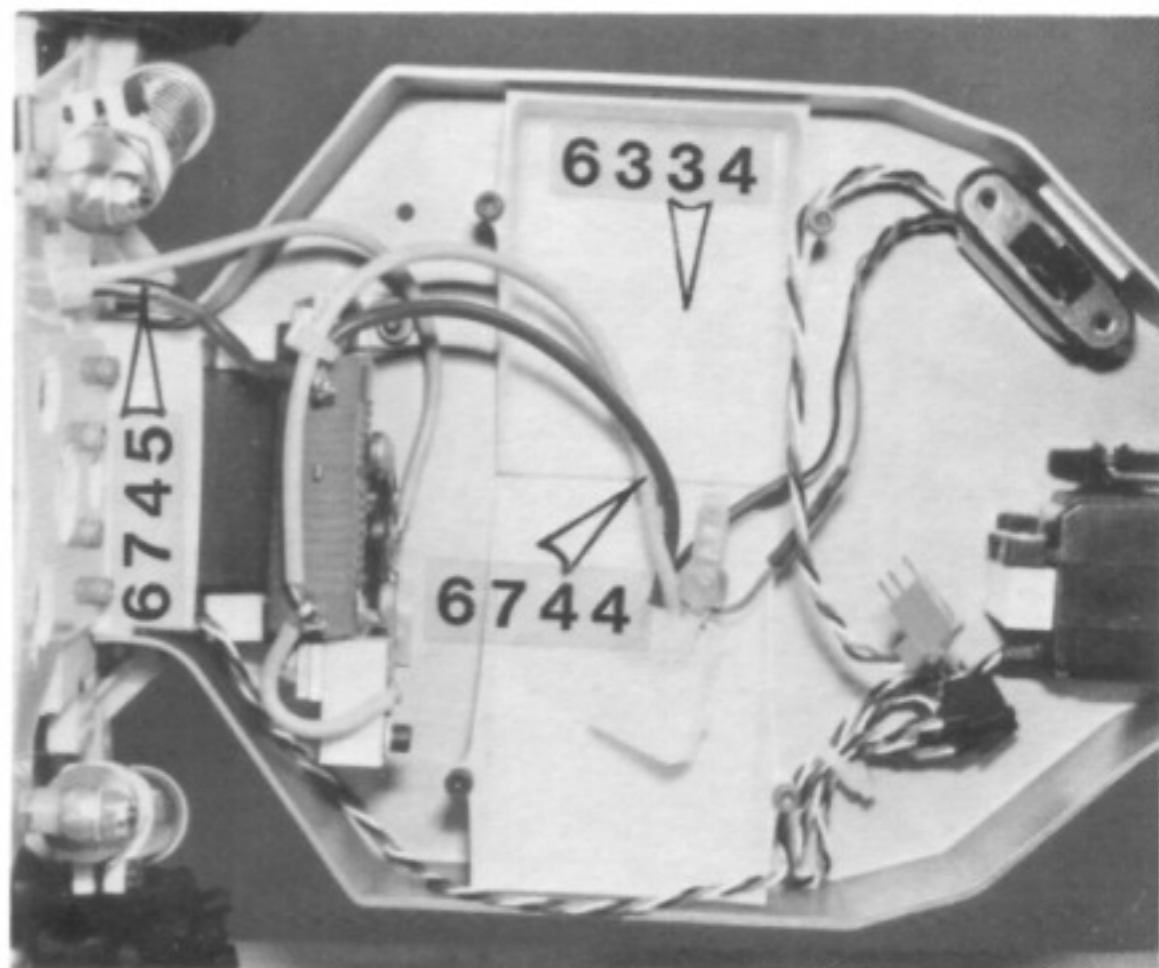

Fig. 179
□ **Fig. 179** We've installed the #6745 portion of the wiring, now we'll finish the #6744 wiring. Now, we'll attach the wires to the switch. On the wiring diagram fig. 208 it shows a black, a green and a red wire going to the radio. You'll only use 2 of these wires, not all 3. On the wiring diagram, you'll notice there are diodes by the battery plug. These diodes cut the voltage down going to your radio so you won't burn out your radio. We'll be attaching 2 of these wires to 2 wires on the radio switch. If there's short wires on the switch, use these for the connections. You'll have to cut the connector off and strip the end of the wires about 1/4" for soldering. We'll tell you the correct wiring for different radio and battery combinations. With a Futaba radio and a 6 cell battery pack - solder the black (-) lead, on the diagram, to the black (-) lead, on the switch. Then solder the green (+) lead on the diagram to the red (+) lead on the switch. Cut the extra red wire off by the 3 pin connector. With a Futaba radio and a 7 cell battery pack, solder the 2 black ends together, and then solder the 2 red ends together. Cut the green wire off by the diode. With an Airtronics radio and a 6 cell battery pack solder the black (-) lead, on the diagram, to the #2(-) which is marked on the switch plug. Now solder the green (+) lead on the diagram to the #3(+) lead. Cut the extra red wire off by the 3 pin connector. With an Airtronics radio a 7 cell pack - solder the black (-) lead, on the diagram, to the #2(-) wire. Now solder the red (+) lead to the #3(+) wire. Cut the extra green wire off by the diode. For other radios you'll always solder the black (-) wire to the (-) wire on your switch. With a 6 cell battery pack you'll solder the green (+) wire to the (+) wire on your switch and with a 7 cell pack you'll solder the red (+) wire to the (+) wire on your switch. Now, with black electrical tape, put a few wraps of tape around the first solder connection, and then put a few wraps around the 2nd solder connection. Now, attach the #6334 battery trays to the chassis, from Bag #6-7, as shown, with the flathead Allen screws.